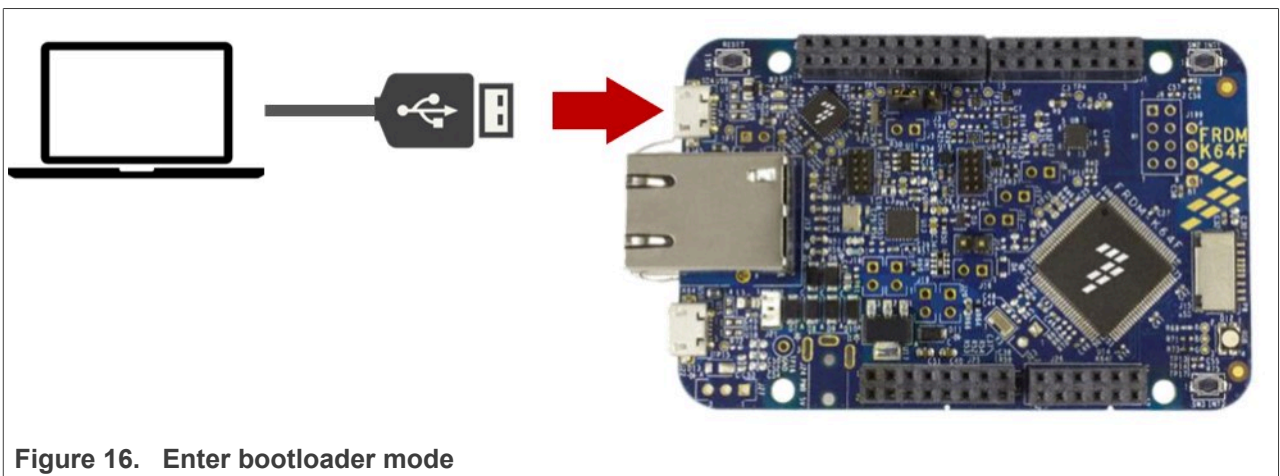

Figure 16. Enter bootloader mode
4. Start the board's bootloader mode. To do so, (1) keep reset button pressed while (2) connecting the USB cable to the SDA USB port and release it after 1s (Figure 16):